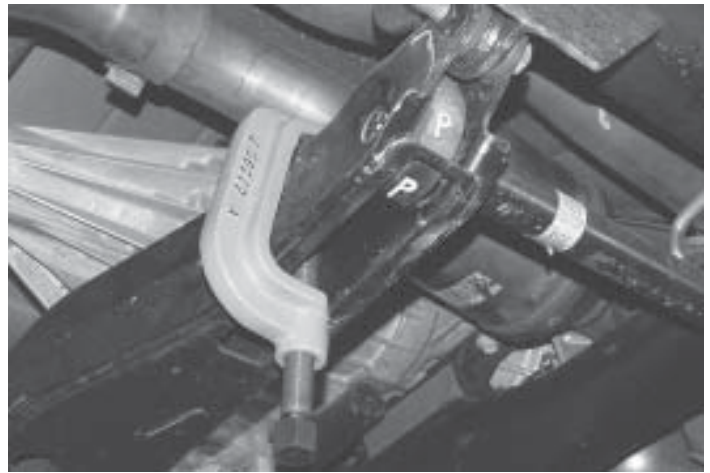

Fig. 2
B. Using J36202 shown in **Fig. 2** or an equivalent torsion bar unloading tool, unload the torsion bars. **DO NOT REMOVE THE TORSION BARS OR ADJUSTERS AT THIS TIME.**